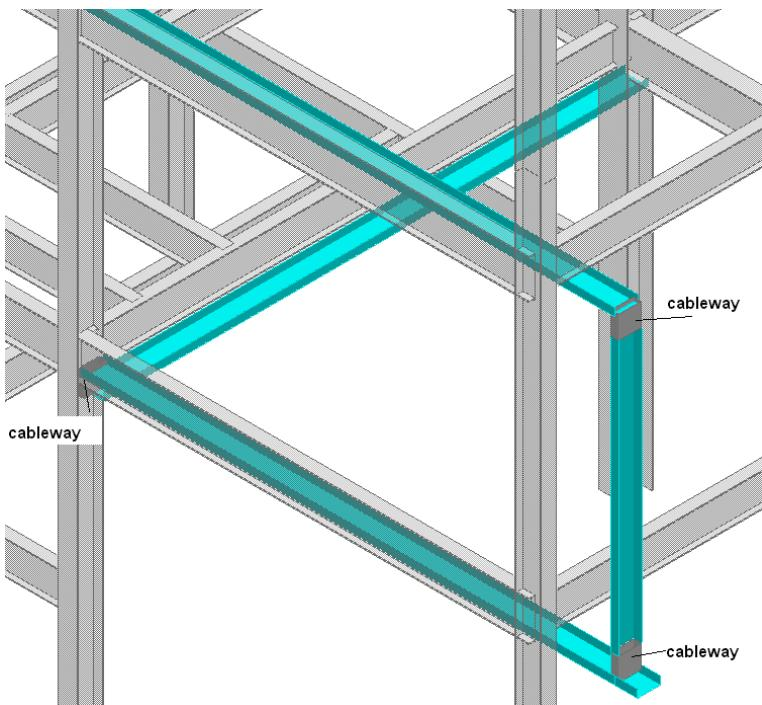

Figure 15: Routed Second Cableway
40. Connect the trays using “Zero-Specs” cableway for cable routing to be possible in this cableway. The Auto Connect command can be used to create the connecting cableways as shown in Figure 15.